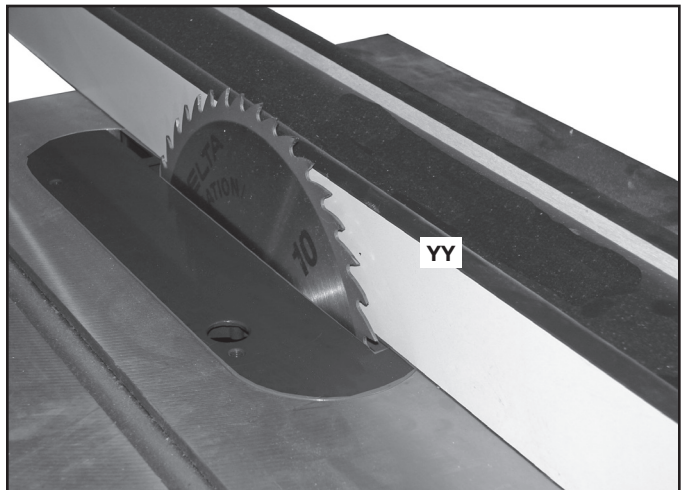

FIG. 26
1. Move fence (YY) Fig. 26 to the right side of the saw blade so that when you rotate the blade by hand, it just clears the fence when fence is locked, as shown in Fig. 26.